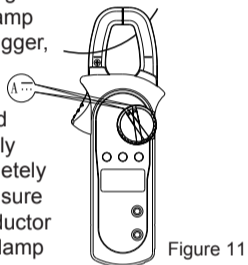

Figure 11
9. DC current measurement (A_{DC}) (See Figure 11)